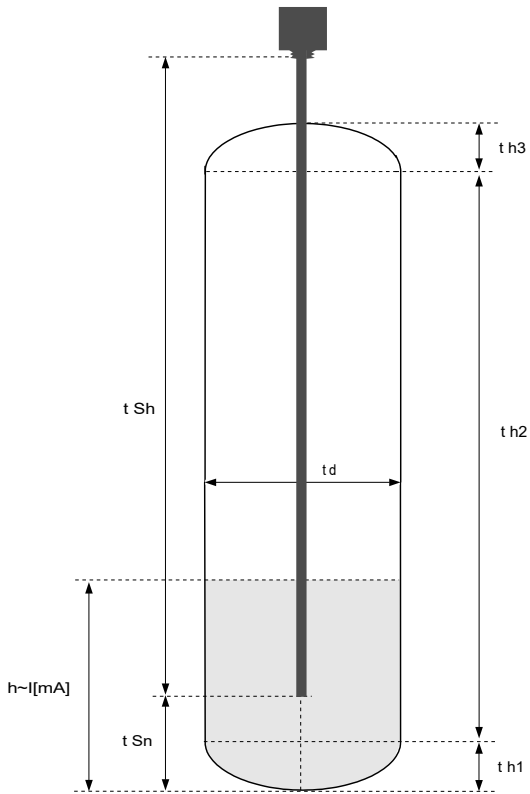
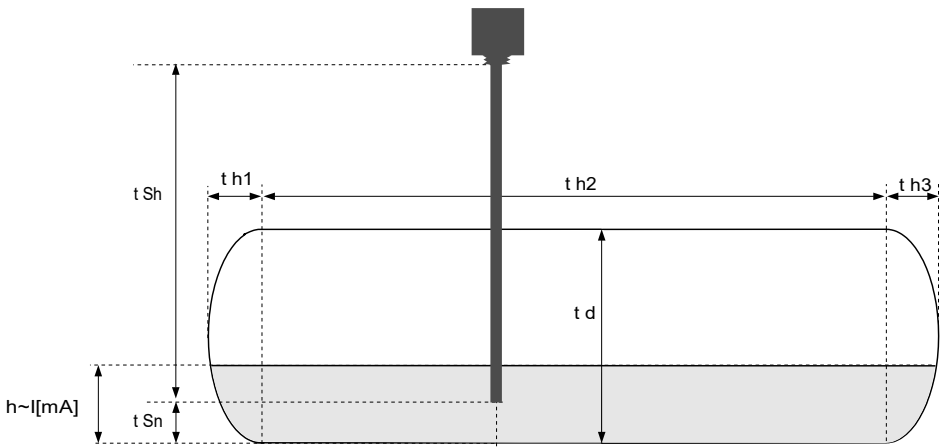

Figure 7.1 Parameters of cylindrical tank in vertical position.
Figure 7.2 Parameters of cylindrical tank in horizontal position.
**„t h1"**, **„t h2"**, **„t h3"**, **„t d"** - the parameters defining shape of cylindrical tank (Figure 7.1 and Figure 7.2).
level of liquids, gases or solids in the tank (Figure 7.1, 7.2).